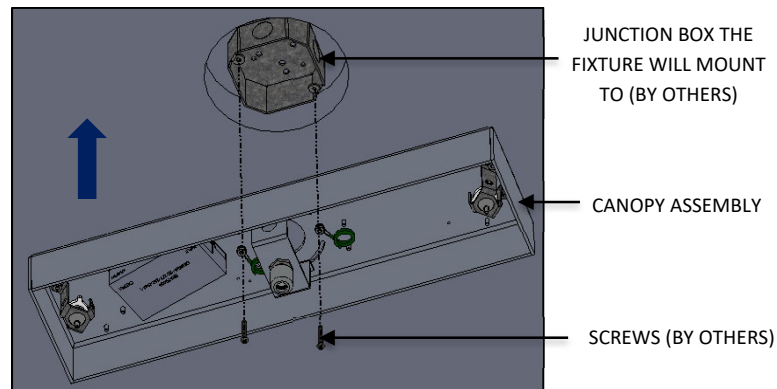

FIG. 5 - BOTTOM VIEW SHOWING CANOPY ASSEMBLY INSTALLATION
2. Assemble the CANOPY ASSEMBLY to the JUNCTION BOX (by others) with screws (by others) as shown in FIG. 5 below.